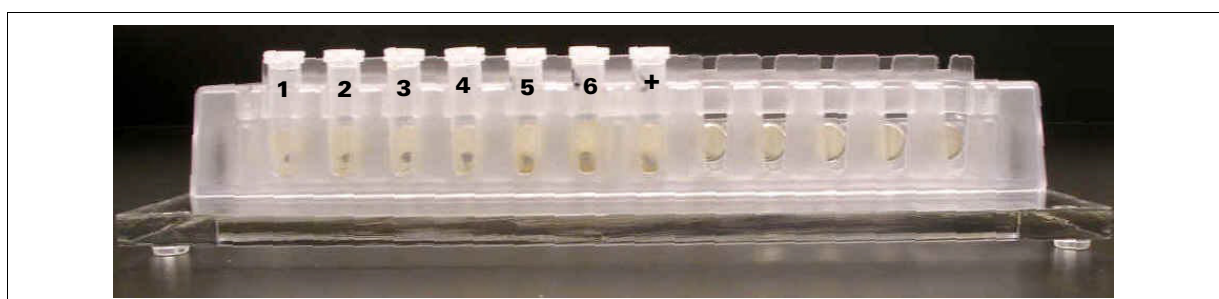

Figure 4.18 Samples with magnetic beads on MagnaRack
7. Place the tubes on the magnetic stand (Figure 4.18 on page 55).